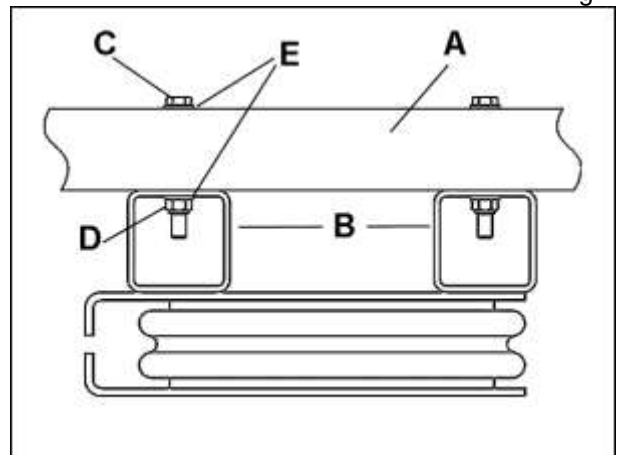

Fig. 4.7
- Assemble the beams and the fixed frame. Position of screws in Figure 4.7. Use both central screws on the left side to also secure the support plates **D** of the electrical installation.
Elements of Figure 4.7.